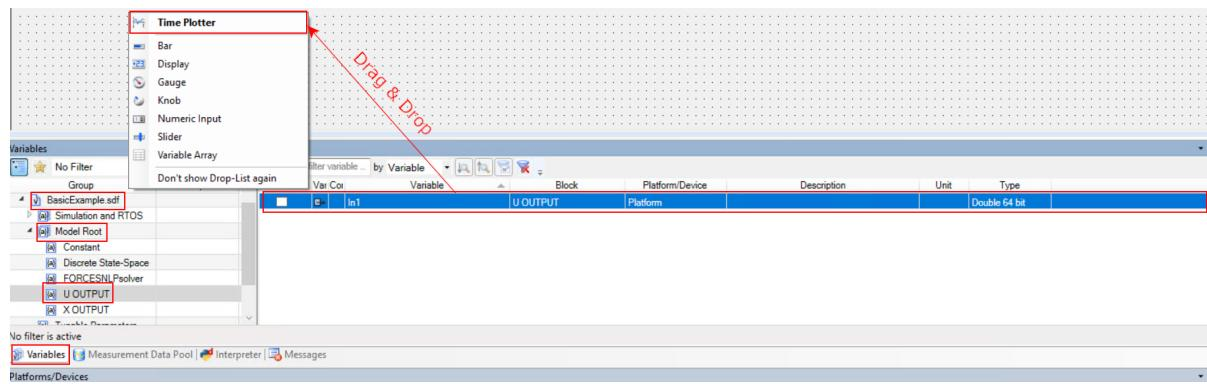
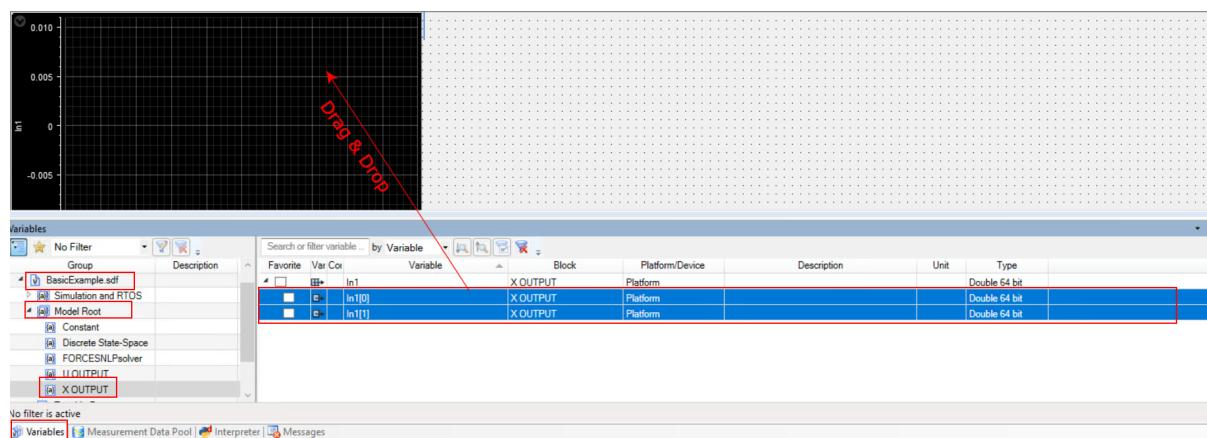

Figure 13.80: Add the inputs of U OUTPUT in a Time Plotter.
Figure 13.81: Add the inputs of X OUTPUT in the same Time Plotter.
- 7) Select `U OUTPUT` and `X OUTPUT` and Drag & Drop all the input variables together to the Layout. In the opened menu select `Time Plotter` (see Figure 13.80 and Figure 13.81).